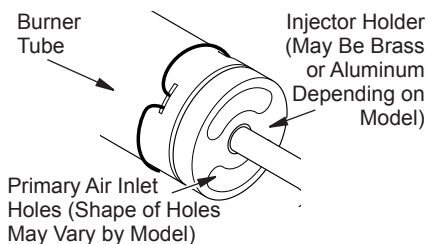

Figure 32 - Injector Holder On Outlet Burner Tube
2. Inspect burner, pilot, and primary air inlet holes on injector holder for dust and dirt (see Figure 32).